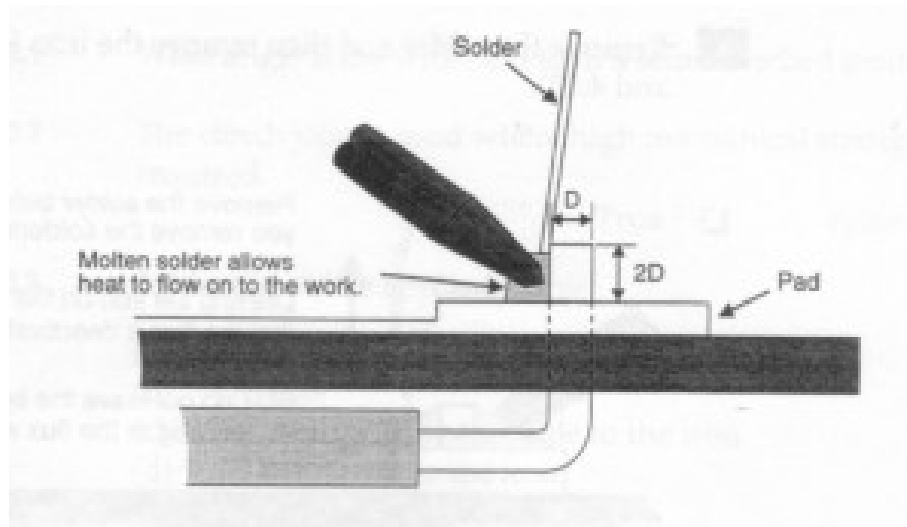

Figure C1 - Form a heat bridge
2. Place a hot and clean iron tip against both the lead and pad as in Fig. C1.